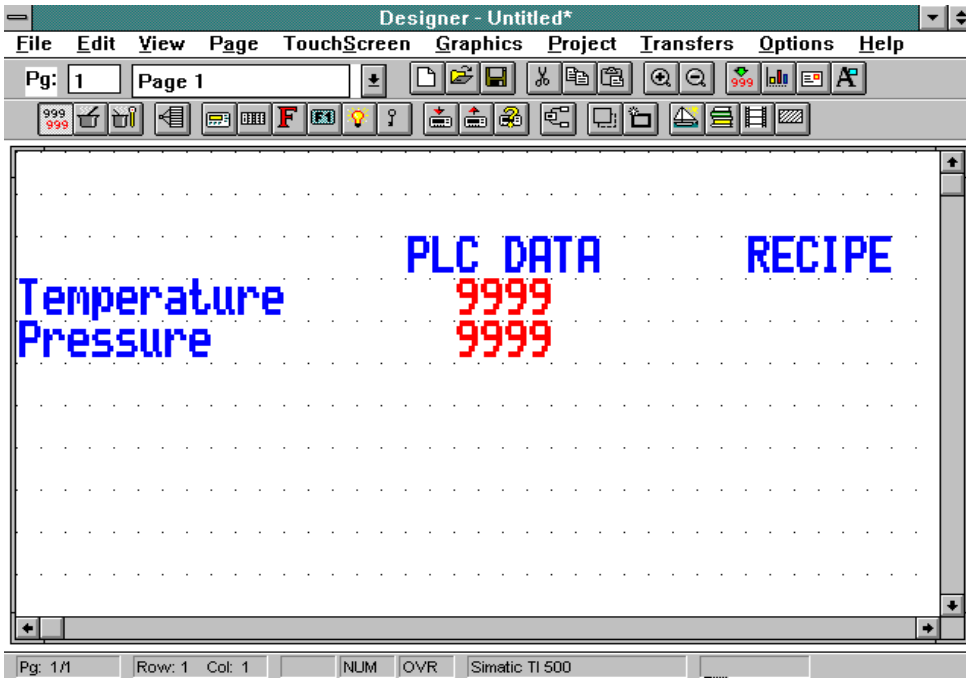

Figure 12-1
4. Define some background text and two numeric fields with different addresses as shown in Figure 12-1.